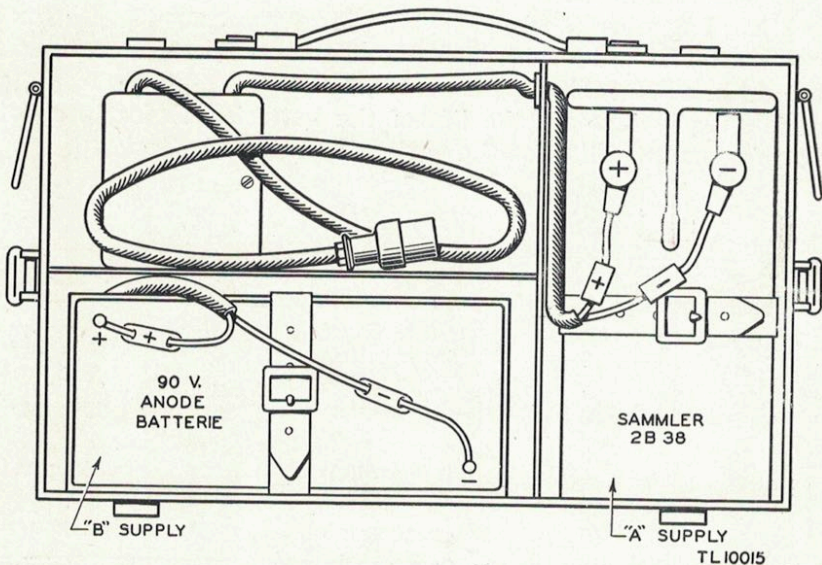

Figure 2. Accessories case of German radio set Torn. E. b.
**a. Battery Installation.** If the proper German batteries are available, they should be connected in the accessories case (fig. 1①). The storage cell, German type 2B 38, will fit into the compartment provided. The **Anode Batterie** (B battery) also fits into a compartment in the lower side of the case (fig. 2).
c. **Accessories Case.** (1) The container is divided into three compartments, as shown in figure 2. Components consist of a 2-volt lead storage cell, a 90-volt plate battery, two headsets, and the battery cable. The batteries are held firmly in place by leather straps.